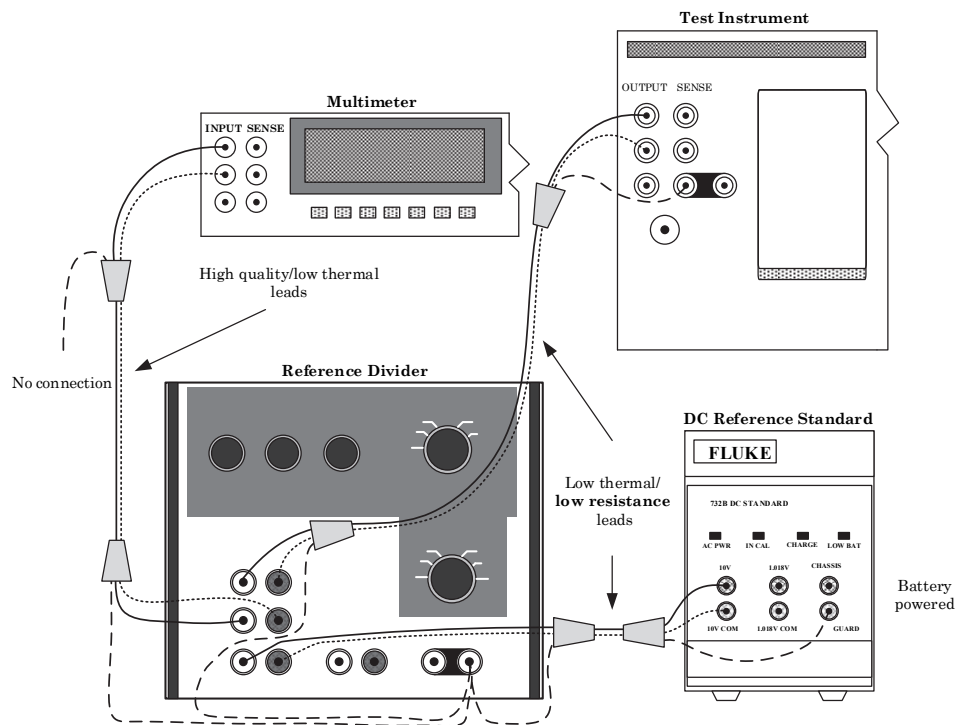

Figure 6. DCV Verification Connection.
- (14) Set reference divider to OPERATE and mode switch to 0.1 V.
- (15) Set multimeter function to DCV, Range 200 mV, RESL 7, FAST OFF, FILT ON, Internal Guard.
- (16) Allow time for thermals to dissipate and multimeter reading to settle (this could take several minutes).
- (17) Zero multimeter 200 mV range, then set range to AUTO.
- (18) Remove copper shorts from reference divider.
- (19) Connect equipment as shown in figure 6.